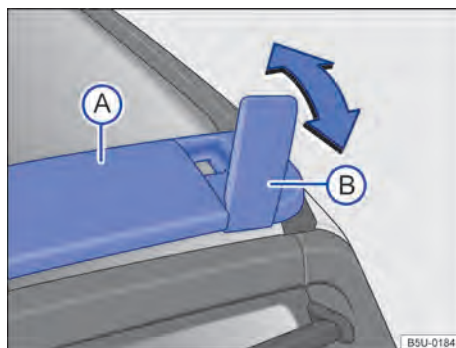

Fig. 151 On the roof: cross member and pivot support.
Use only the roof cross strut → Fig. 151 (A) and articulated supports (B) to support larger objects that do not fit the luggage compartment → ⚠.